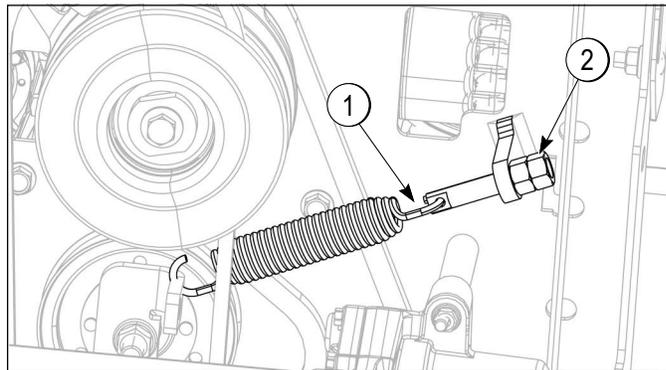

Figure 6-6
Pump belt spring tensioner (1) is shown in Figure 6-6.
2. Using a 3/4 in wrench, loosen the top jam nut (2). Tighten the adjustment nut to increase the belt tension. Once desired drive belt tension is achieved, tighten the jam nut securely.